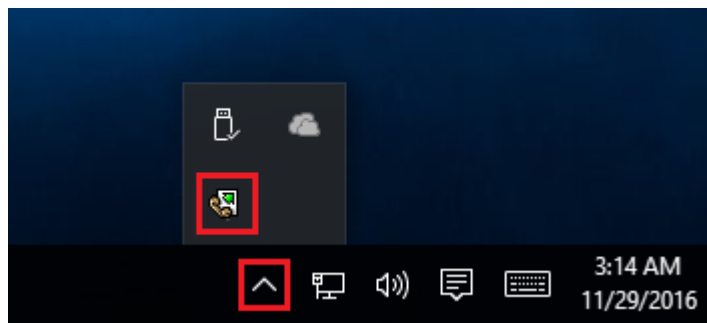

Fig. 6.1.2 Systray - panel near clock
- **Start in minimized state** - at start Advanced PBX Data Logger will automatically minimize the program window to the taskbar or to the Systray (fig. 6.1.2).